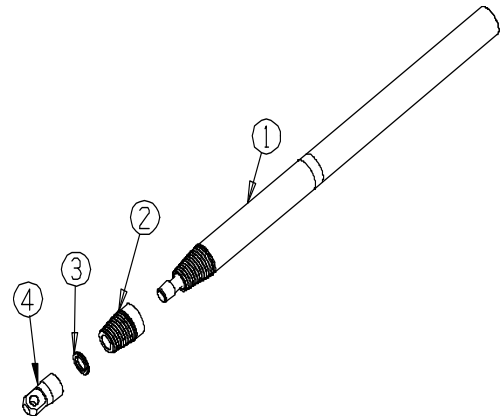

Figure 10-2
- Nose Cap and Cover (Figure 10-2).